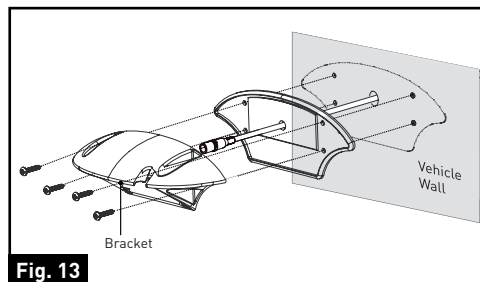

Fig. 13
4. Fix the gasket and bracket to the vehicle using four  $\frac{3}{4}$ " flat self-tapping screws. Make sure the camera power cable is not wrapped or extruded. (Fig. 13)